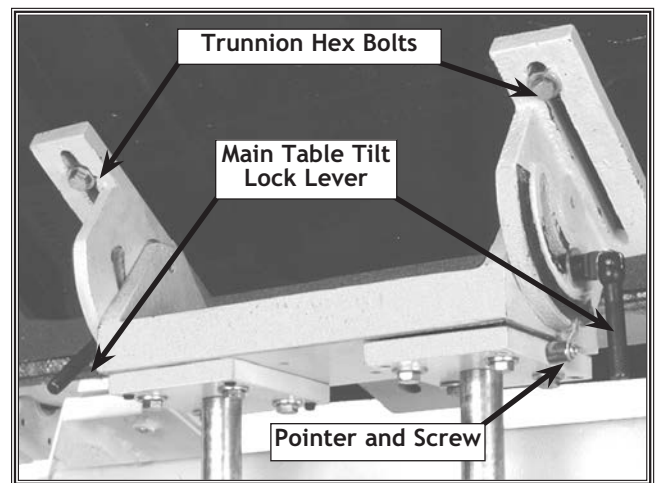

Figure 15. Main table-tilt lock levers and scale.
6. Tighten both main-table tilt lock levers. See **Figure 15**.
7. Loosen the pointer screw and set the pointer to zero. See **Figure 15**.
10. Tighten the two trunnion $\frac{5}{16}$ "-18 X 1" hex bolts. See **Figure 15**.